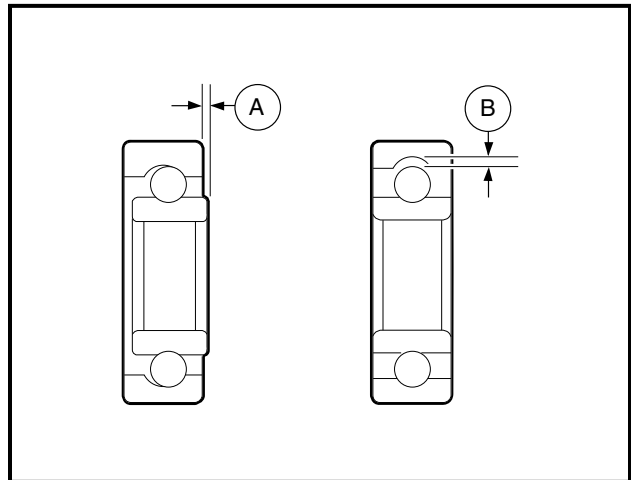

Figure 15-9 Inspect Bearing
1. Using a clean cloth, wipe the carbon dust off of the bearing. Inspect the bearing by spinning it by hand and checking for both axial (A) and radial (B) play (**Figure 15-9, Page 15-7**).